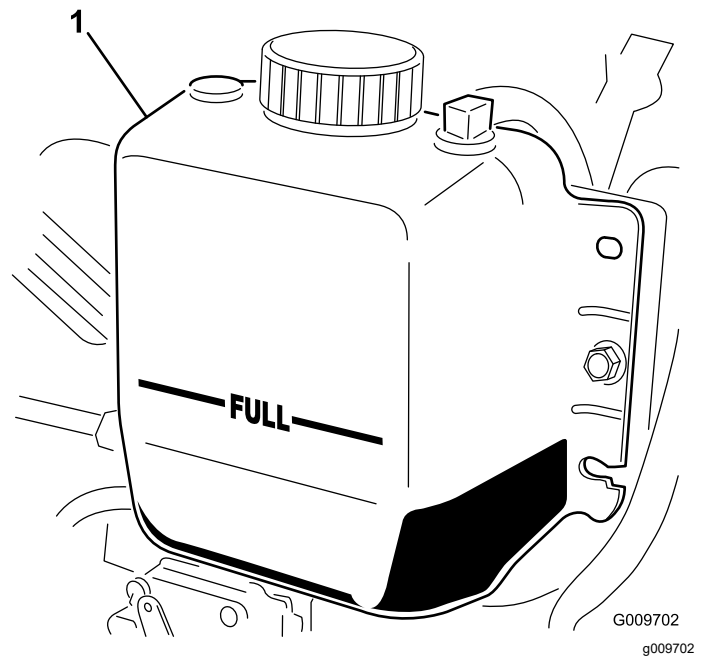

Figure 74
3. Check the coolant level in the radiator. The radiator should be filled to the top of the filler neck and the expansion tank filled to the FULL mark (Figure 74).